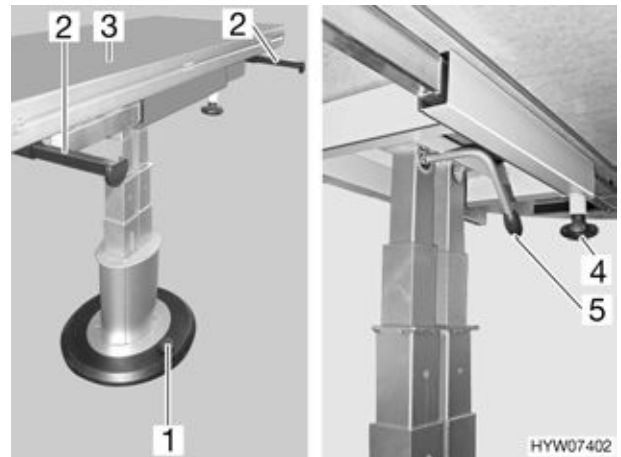

Fig. 65 Fixed table with telescopic table leg
- Pull out the support rails (Fig. 65,2) as far as possible.
- Fold over the upper half of the table-top (Fig. 65,3) and rest it on the support rails.
- Undo the knurled screw (Fig. 65,4).
- Tread on the knob (Fig. 65,1) with your foot. The lower lock is open.
- Swivel the catch lever (Fig. 65,5) to the rear. The top lock is open.
- Swing the catch lever (Fig. 65,5) to the front. The table leg is locked.
- Swivel the catch lever (Fig. 65,5) to the rear. The top lock is open. The table-top moves upwards to the limit stop.
- Tread on the knob (Fig. 65,1) with your foot. The lower lock is open. The table-top moves completely upwards.